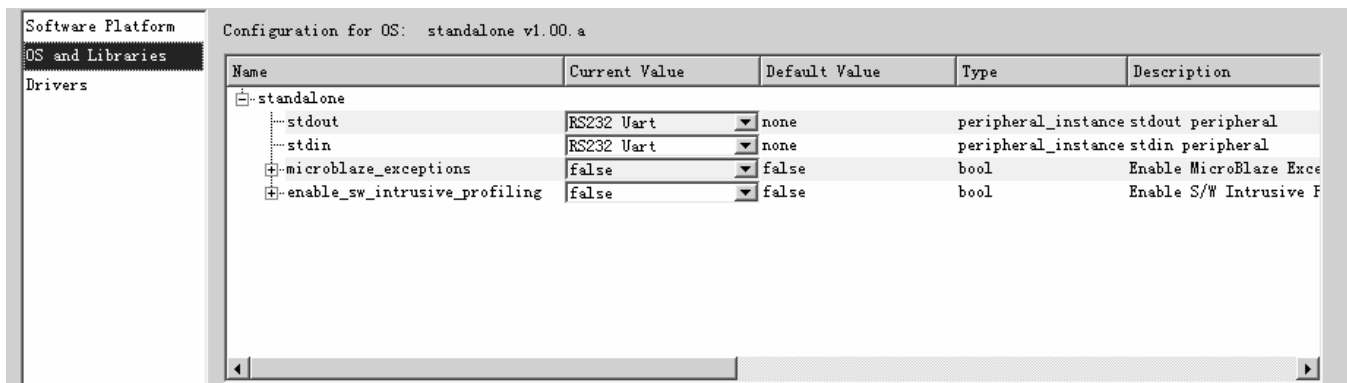

Figure 25: OS and Libraries view
- Select the OS and Libraries view as shown in Figure 25. This view allows the user to configure OS and library parameters. No changes are required.